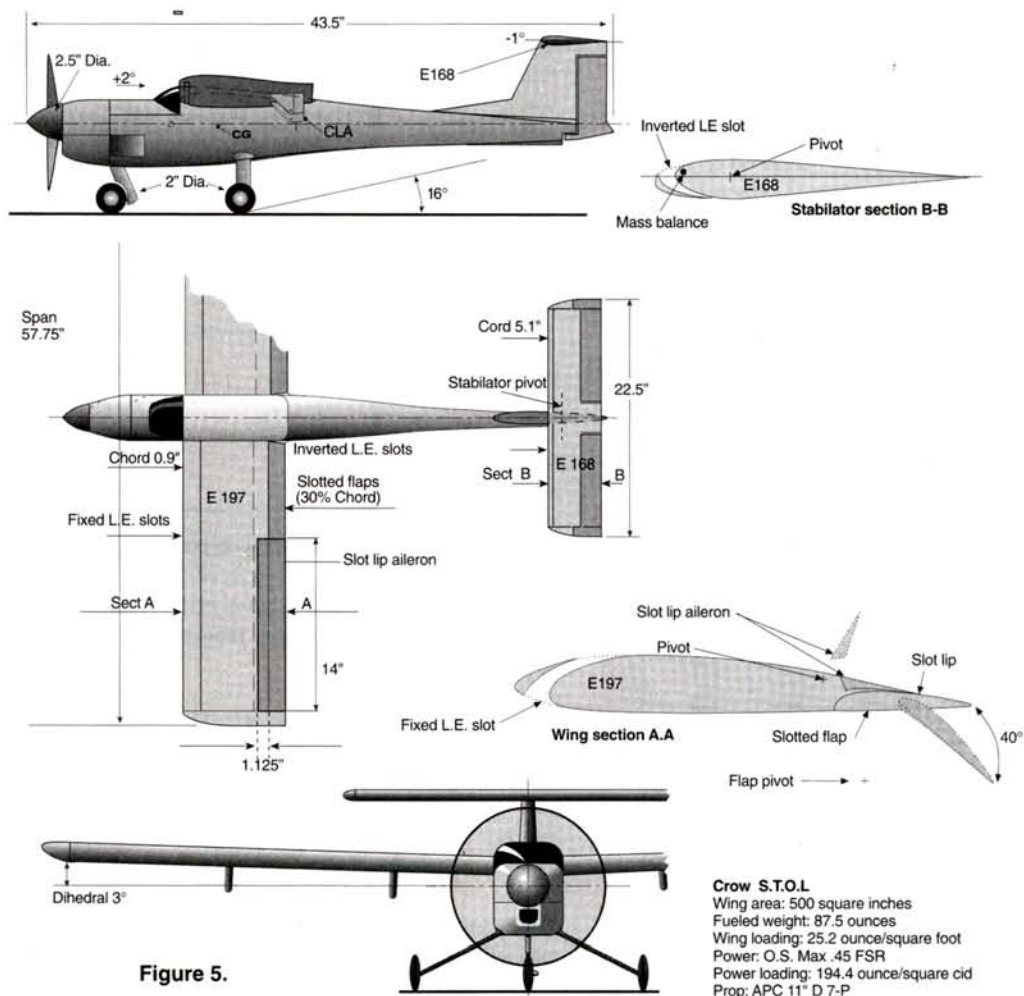

Figure 5.
Model B's weight would, however, be increased by the ducted cowl, large spinner, landing-gear leg fairings, full balsa stressed skins, flaps plus their servo and linkage, mass balancing of control surfaces and a 700mAh battery replacing the usual onboard unit of 500mAh. This is estimated to add 9 ounces, leaving 8 ounces, reducing model B's weight to 88 ounces. The author's Crow (Figure 5 and photos 1, 2 and 3) at 500 square inches of
• **Drag comparison.** At 70mph, model B's wing would have 4 ounces less profile and induced drag than model A's wing; but that's not all! The engine cowl, spinner, shorter rounded fuselage (Figure 5), smaller tail surfaces, landing-gear leg fairings and small streamlined wheels, the smoother overall surfaces and absence of dowels and rubber bands holding the wing are conservatively estimated to reduce drag by a further 8 ounces (at 70mph) for a total drag reduction of 12 ounces, permitting a higher top speed for model B. This is confirmed by experience with the author's previous designs (references 13 through 17).